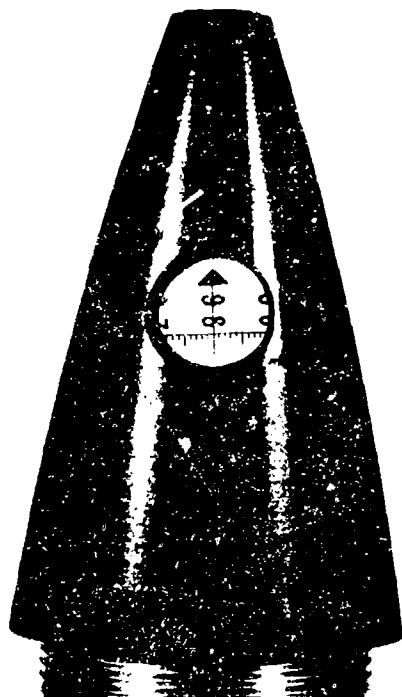

Figure 11-31. Superquick PD setting for fuze M577 or M582.
setting of  $\blacktriangle 98$  (fig 11-31). At this fuze setting ( $\blacktriangle 98$ ), either fuze M577 or fuze M582 will operate as a superquick point-detonating (PD) impact fuze and the round is ready for firing without additional action.